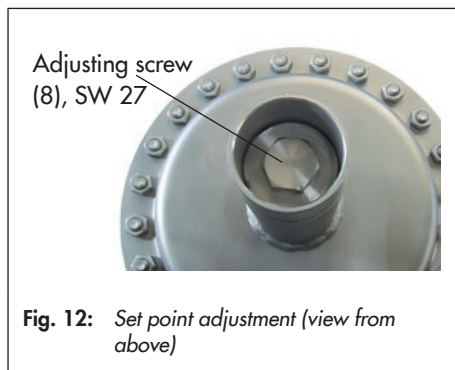

Fig. 12: Set point adjustment (view from above)
Adjust the required set point (see Fig. 12) by tensioning the set point springs (7) at the set point adjuster (8) using a suitable socket wrench (width across flats 27).
1. Remove the cap (12).
2. Use a socket wrench (SW 27) to turn the screw (8).